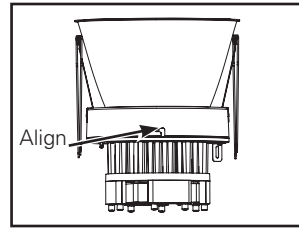

Figure 32.
- Place LED Engine into Lower trim. Align trim slots with engine screw holes (Figure 32.).